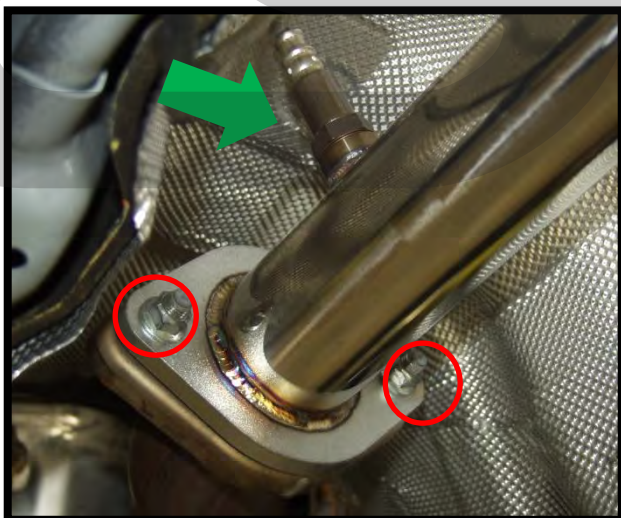

Figure 4c
c) Verify the factory exhaust gasket is still attached to the downpipe and guide the downpipe studs into the flange holes of the CorkSport exhaust pipe (Figure 4c).
e) Coat the downpipe studs with anti-seize lubricant. Replace the two (2) 14mm nuts (red circles) and fasten the exhaust flanges together (Figure 4c). Torque the nuts 35ft-lbs.